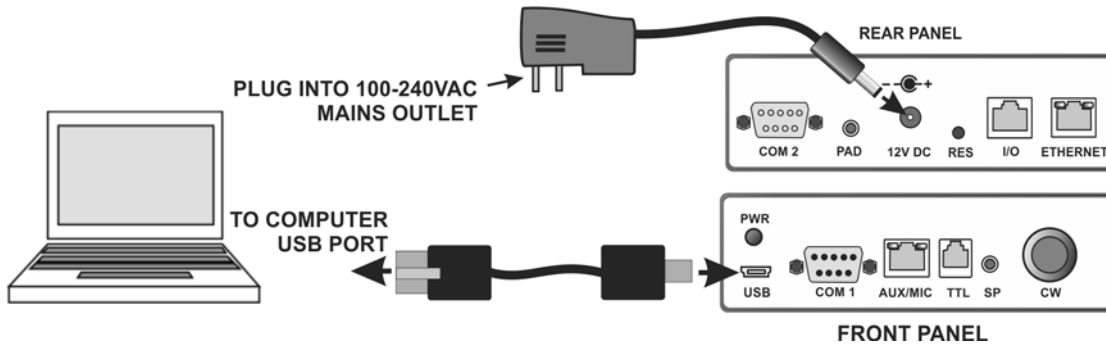

Figure 1
2. Connect your computer and power to **one** of the RR-1256 units (see Figure 1).